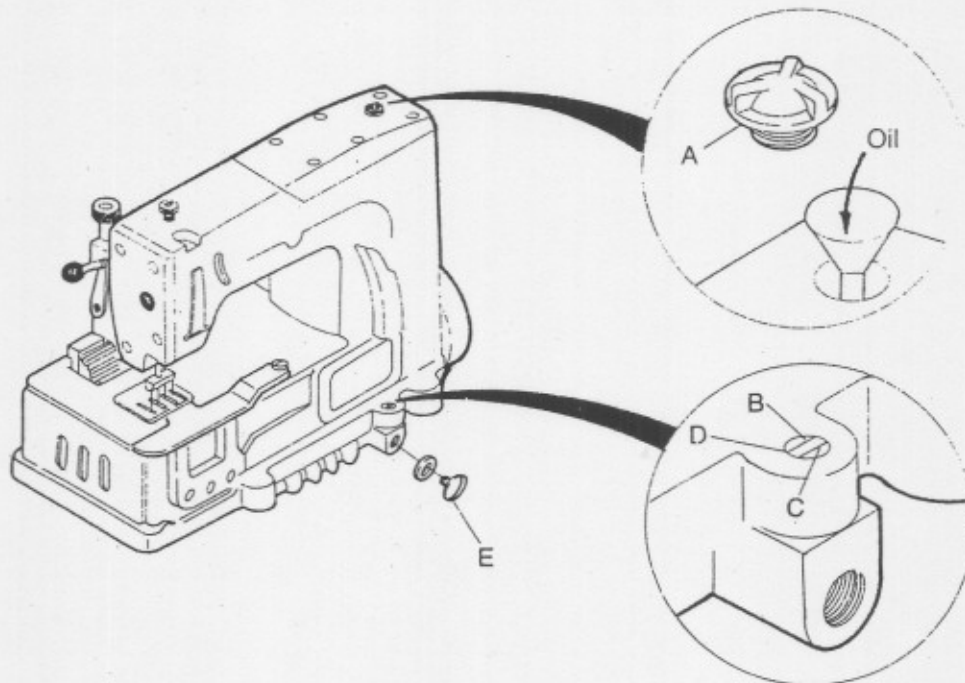

Fig 3
1. Please supply the oil after loosening the siphone case in Fig. 3.
Please put out the oil after loosening the screw E in Fig. 3. at the bottom of the oil pan.